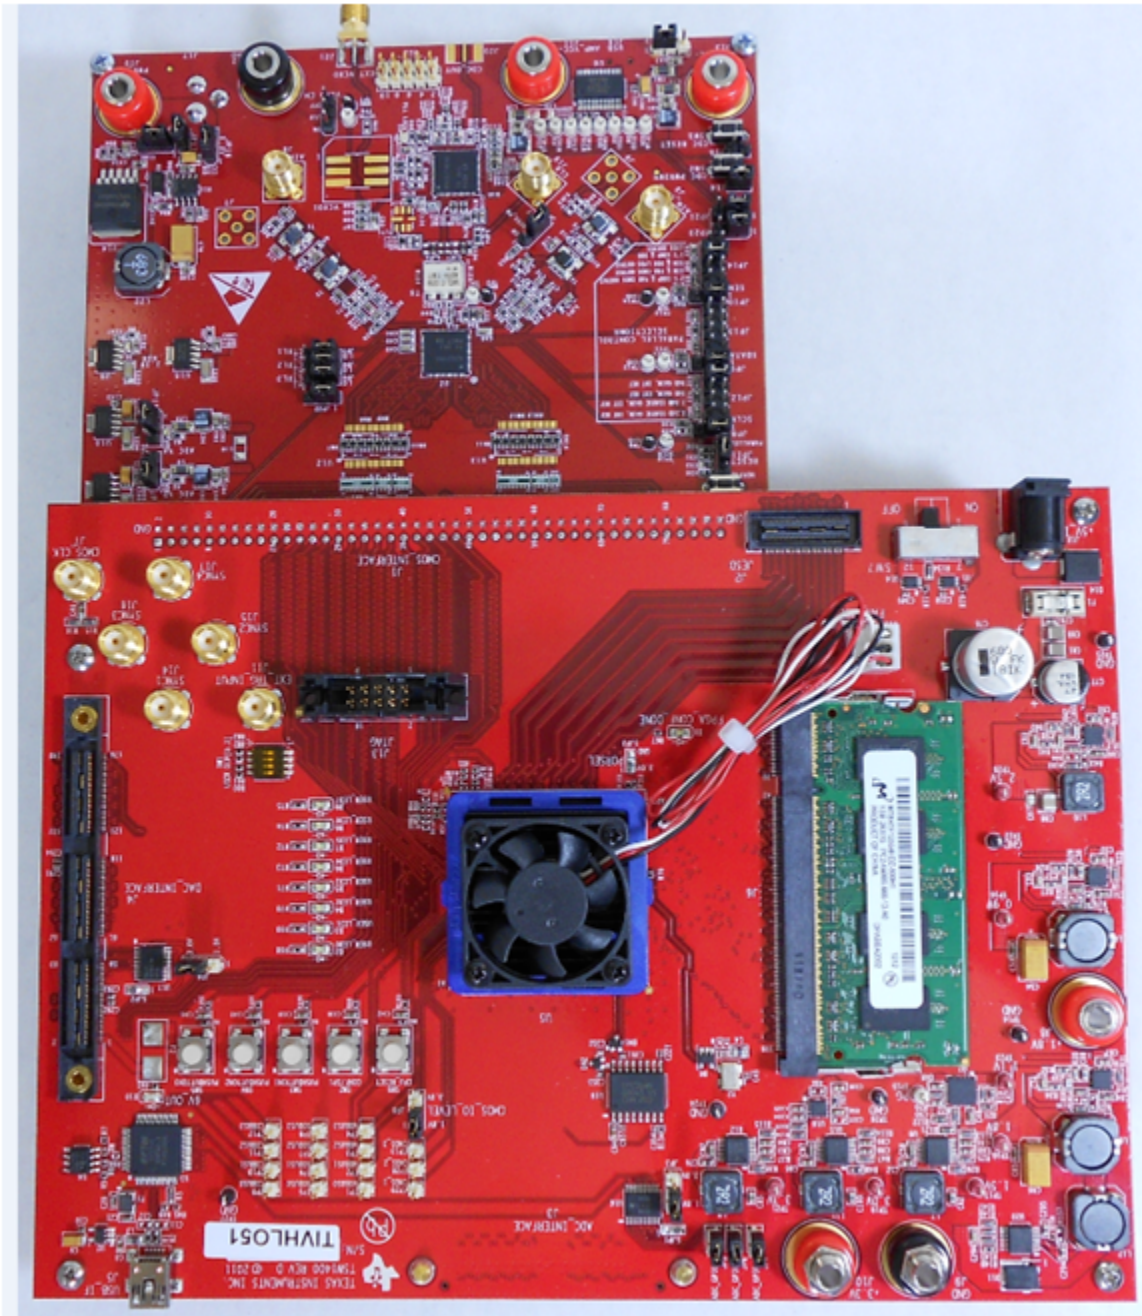

Figure 35. TSW1400EVM interfacing to the CMOS connectors of an ADS62P49EVM
- The TSW1400 EVM connected to the CMOS connectors of the ADS62P49EVM is shown in Figure 35